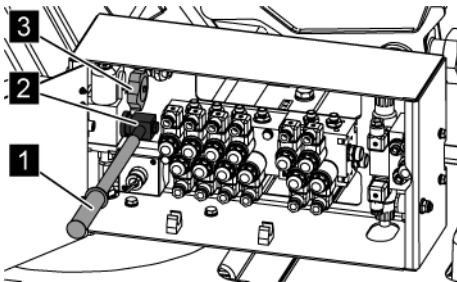

Fig. 176: Hand pump
6. → Connect the hand pump lever (Fig. 176/1) to the hand pump (Fig. 176/2).
The hand pump lever (Fig. 176/1) is situated in the hydraulic control box.
7. → Make sure that the hand wheel (Fig. 176/3) on the hand pump (Fig. 176/2) is closed.
Pump up and down with the hand pump (Fig. 176/2) until the selected component has reached the desired position.